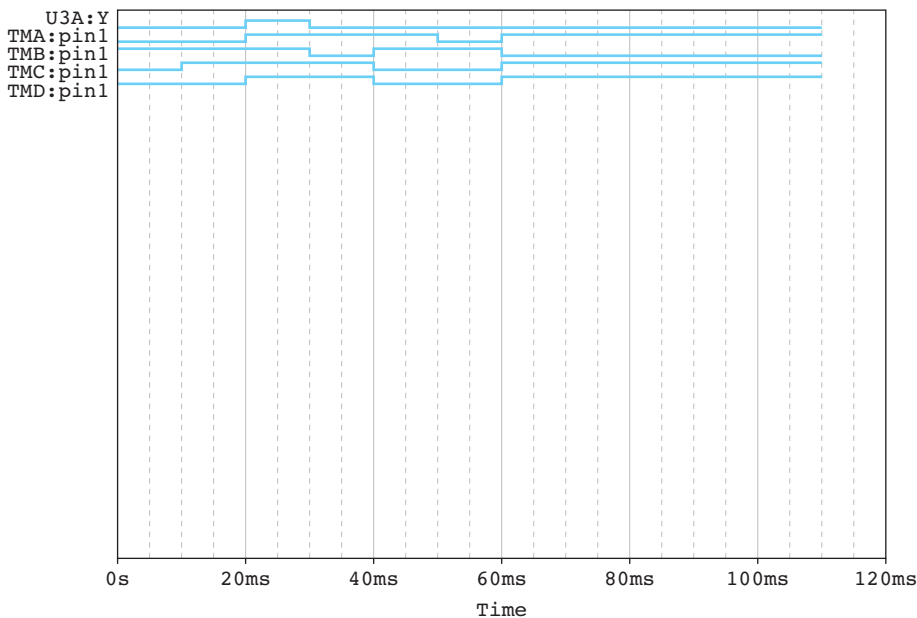

FIGURE 10.69 Digital output of Example 10.23.
3. Set the simulation analysis as time domain (see Figure 2.75), with a simulation time of at least 70 ms. The simulation output plot is shown in Figure 10.69.